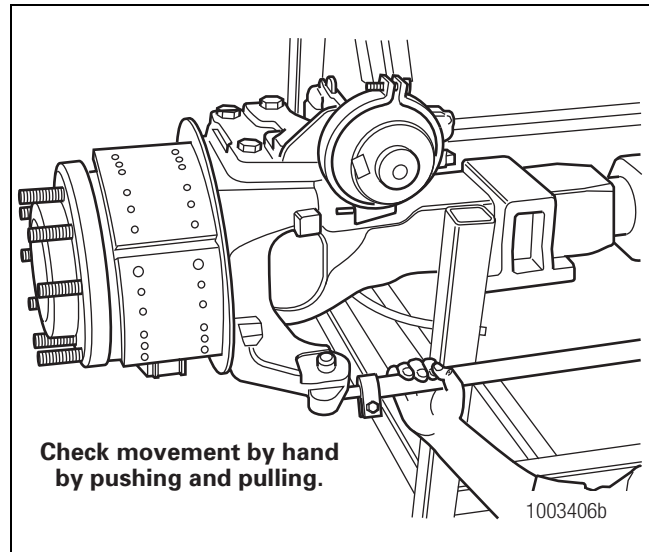

Figure 10.15
11. Use a push-pull movement to apply approximately 100 pounds (45 kg) of hand pressure several times to the tie rod assembly. Check for movement or looseness at both tie rod ends. Figure 10.15.